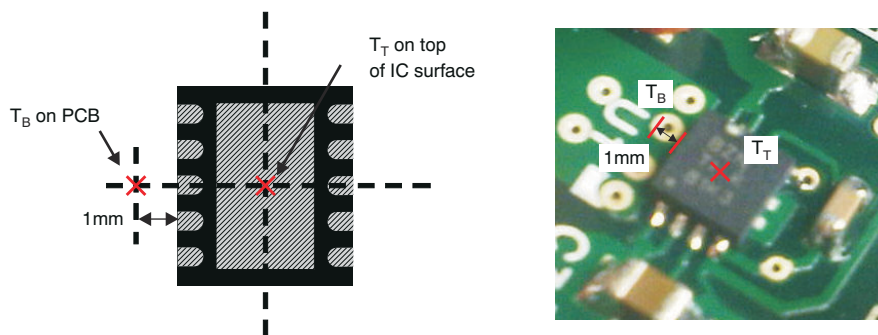

図 8-9. Measuring Points for T_T and T_B
- T_B is the PCB temperature measured 1mm away from the device package *on the PCB surface* (as 図 8-9 shows)